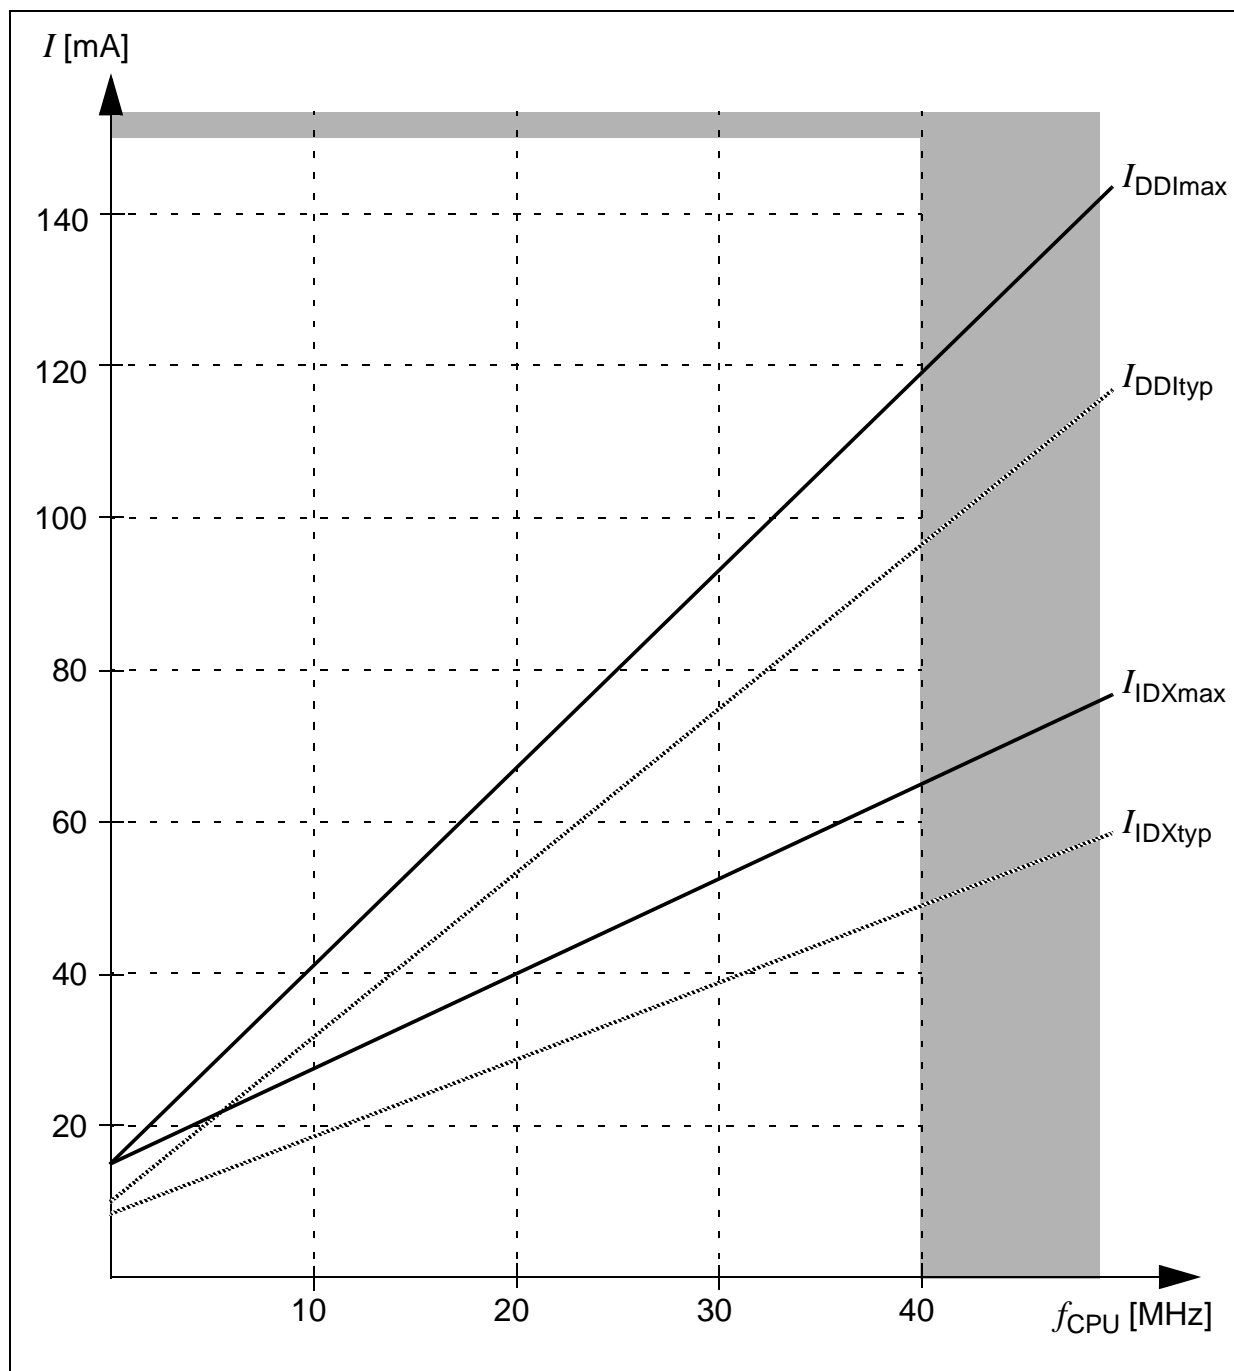

Figure 11 Supply/Idle Current as a Function of Operating Frequency
- ²⁾ The supply current is a function of the operating frequency. This dependency is illustrated in Figure 11. These parameters are tested at V_{DDImax} and maximum CPU clock frequency with all outputs disconnected and all inputs at V_{IL} or V_{IH} .